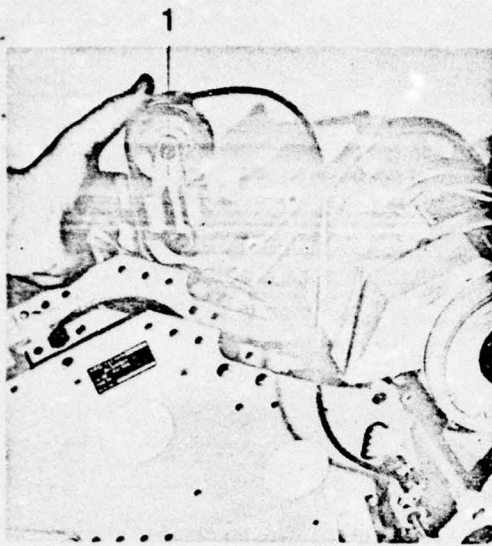

Figure 3.11
18. Cable to be taken from the capstan drum (1, Figure 3.4) and roller support (1, Figure 3.11) to be taken out. Further,